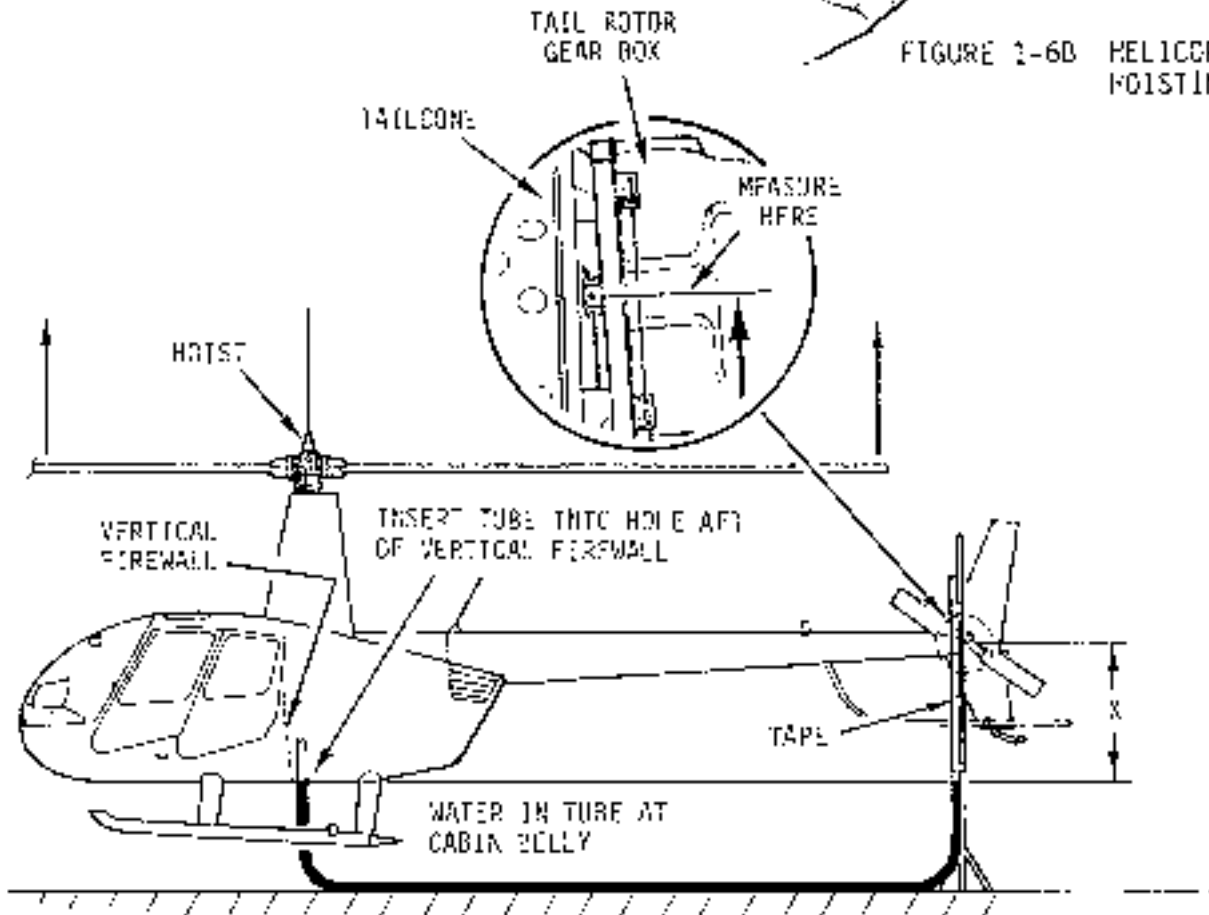

FIGURE 1-7
9. With aircraft hanging freely and steadily, use a water level and measure difference in vertical height between centerline of tail rotor gearbox and cabin belly at vertical firewal. Refer to Figure 1-7.